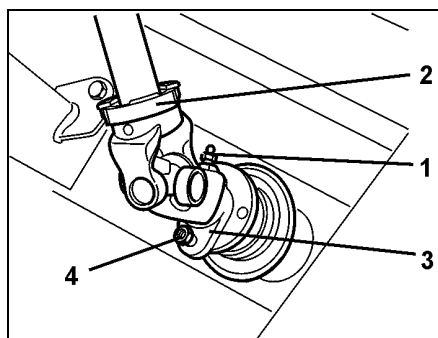

Fig. 37
5. Slacken grease nipples (Fig. 37/1) and push on the PTO shaft (Fig. 37/2).
6. Affix connecting yoke (Fig. 37/3) by using a shear bolt (Fig. 37/4)
7. Insert grease nipples (Fig. 37/1).